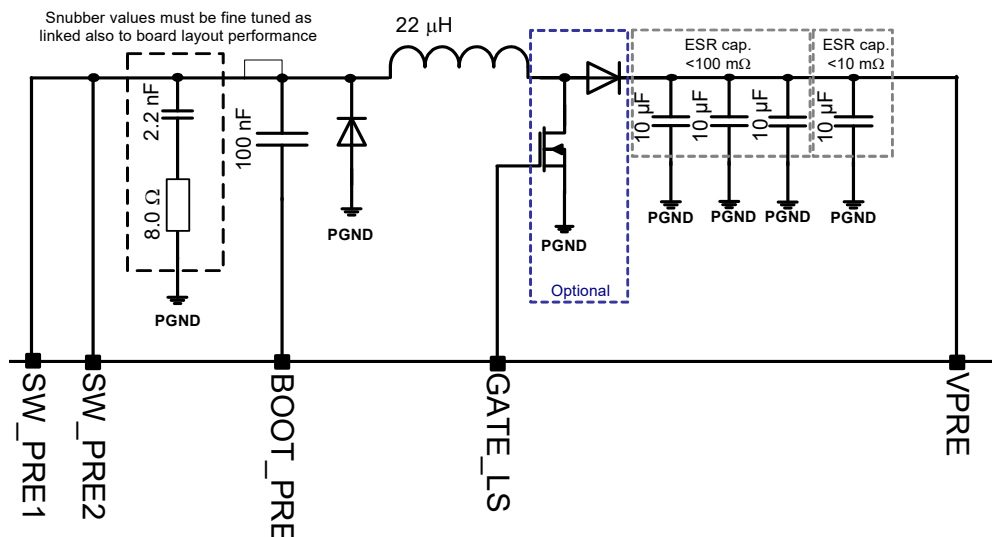

Figure 4. Buck-boost configuration
- In buck-boost configuration, an external logic level MOSFET (N-type) must be connected to the Gate\_LS pin and an additional diode is needed, as shown in Figure 4.